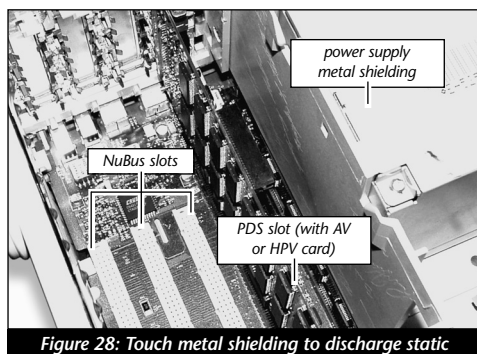

Figure 28: Touch metal shielding to discharge static
4. Lay the computer on a flat surface so that you may gain access to the interior of the computer (*Figure 28*).
5. Identify the internal components of your computer. Touch the power supply metal shielding (*Figure 28*) to discharge any potential damaging static electricity.